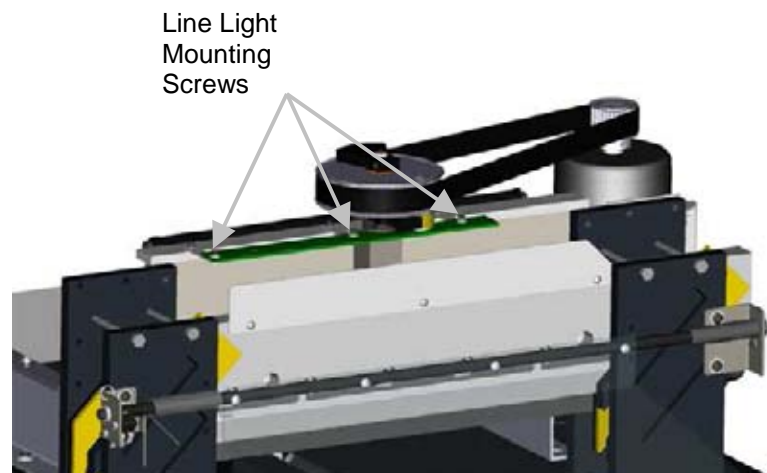

Figure 14
2. Loosen the three line light mounting screws (Figure 14).